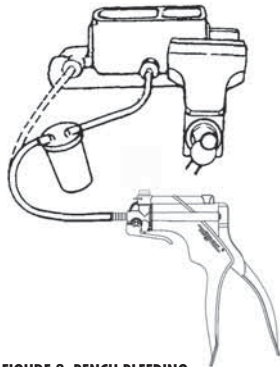

FIGURE 2: BENCH BLEEDING
- 3) Remove a plug from the master cylinder and attach the proper adapter to this master cylinder outlet port. Connect the pump tube to the reservoir jar and the jar tube to the adapter (FIGURE 2).